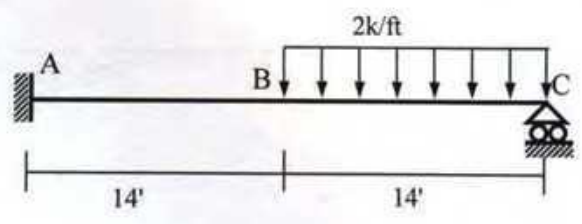

Fig.10
11. Draw the shear force and bending moment diagram of the beam shown in Fig. 10 [$EI = \text{constant}$].